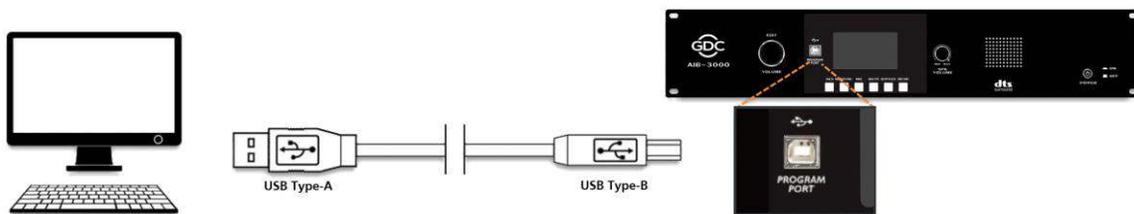

Figure 31: Connect PC/Laptop to AIB-3000 using USB
Connect the PC/Laptop which contains the Upgrade Tool software and the latest upgrade file for the AIB-3000, directly to the device using a USB 2.0 Type-A Male to Type-B Male cable (*provided as part of standard AIB-3000 packaging*). Connect the Type-A end of the USB cable to the USB port on the PC/Laptop and connect the Type-B end to the USB port [② @ Front Panel] of the AIB-3000 unit, as shown in **Figure 31**.